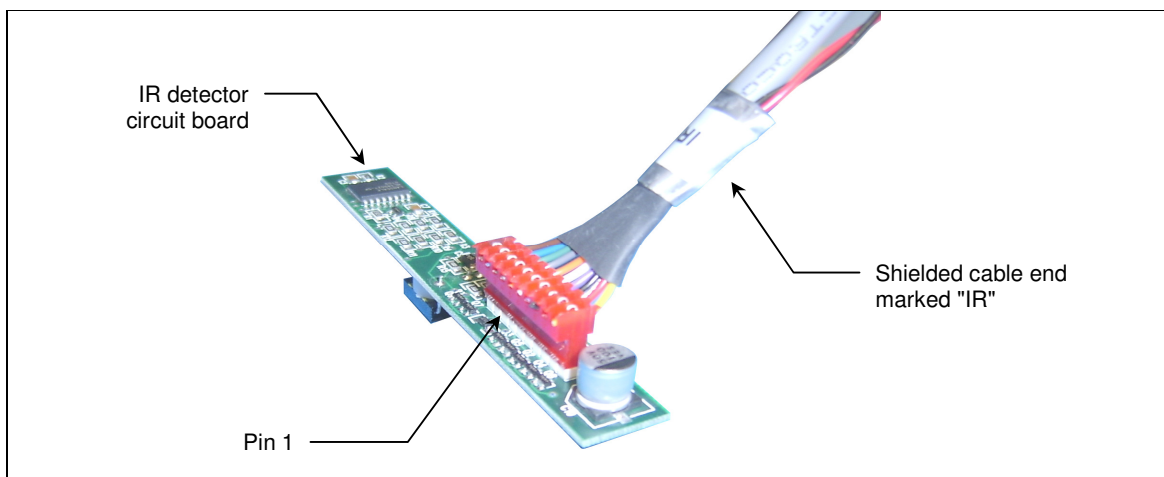

Fig. 2
- 1) The shielded cable has labels identifying both ends. The end marked “IR” must be connected to the IR detector circuit detector board as shown in figure 2.